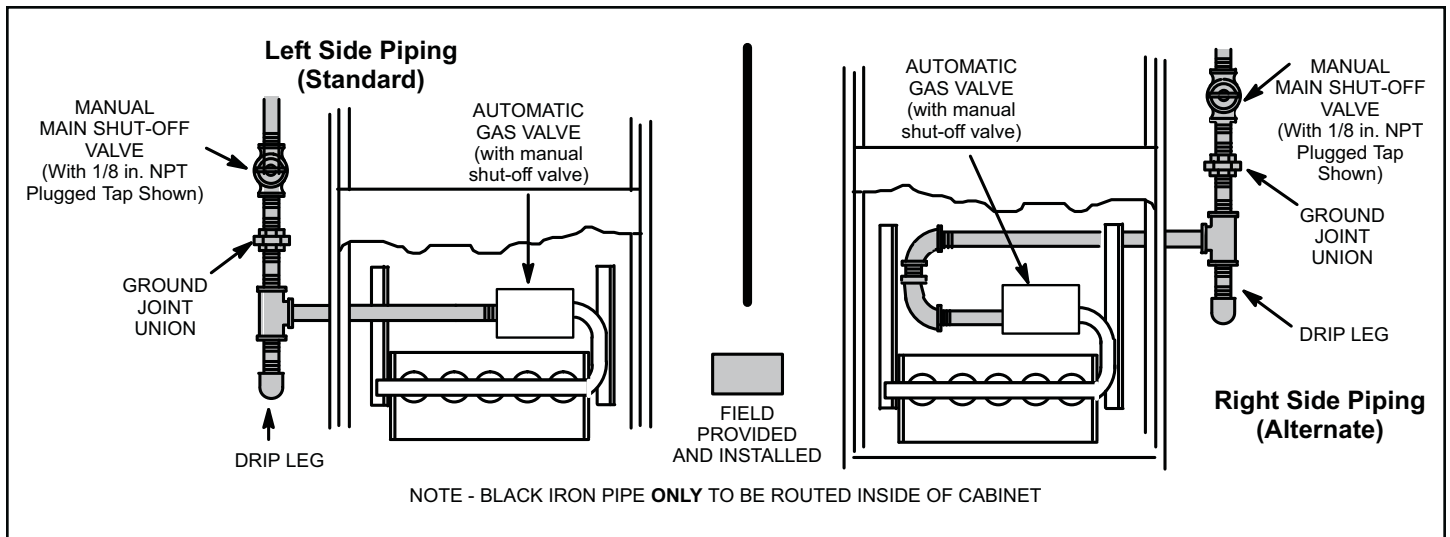

Figure 50.
1. Gas piping may be routed into the unit through either the left or right hand side. Supply piping enters into the gas valve from the side of the valve as shown in Figure 50.
3. Gas piping must not run in or through air ducts, clothes chutes, chimneys or gas vents, dumb waiters or elevator shafts. Center gas line through piping hole. Gas line should not touch side of unit. See Figure 50.